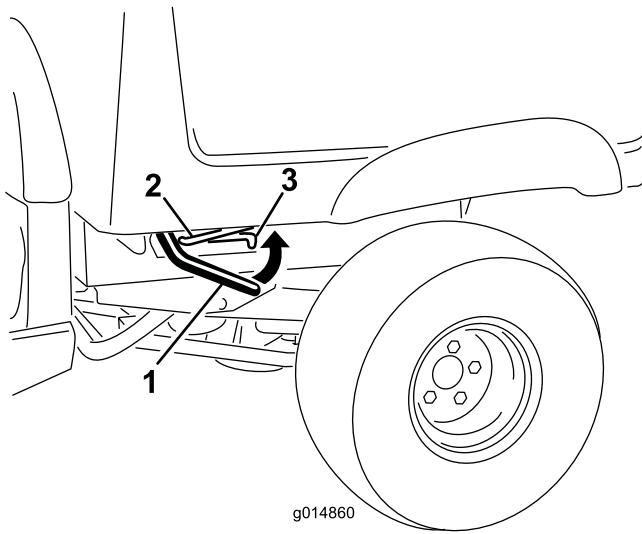

Figure 18
1. Lift the lever on either side of the bed and lift the bed up (Figure 18).
1. Raise the cargo bed slightly by lifting up the latch lever (Figure 18).